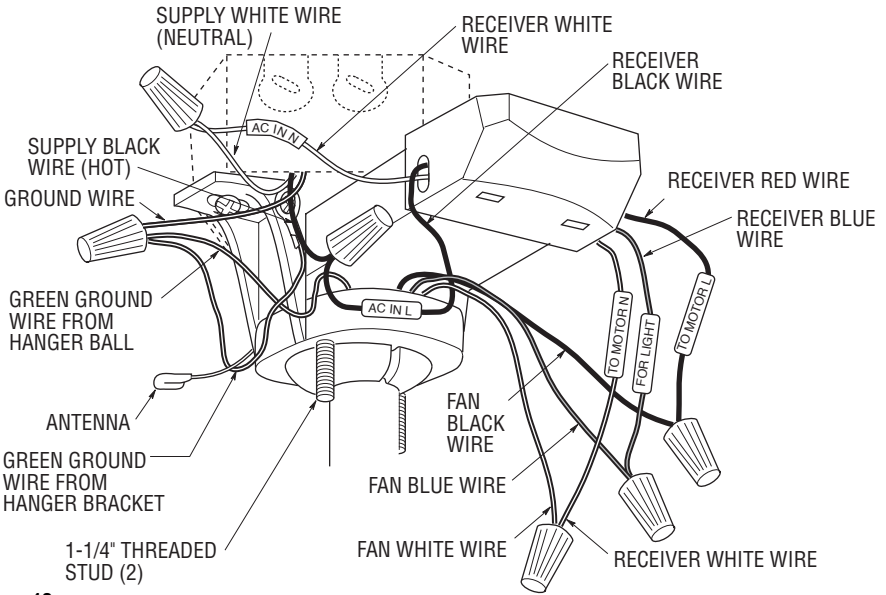

Figure 13
- 1. Position the supply wires to the left side of the outlet box (Figures 13 and 14); position the fan wires to the right side. Partially insert the remote control receiver (flat side up) until one end rests on the hanger ball as shown in Figure 13.
- 2. Refer to Figures 13 and 14 and connect the receiver wires to the supply wires and the fan motor wires as follows:
- 3. Screw the two 1-1/4" threaded studs (supplied) into the tapped holes in the hanger bracket (Figure 13).